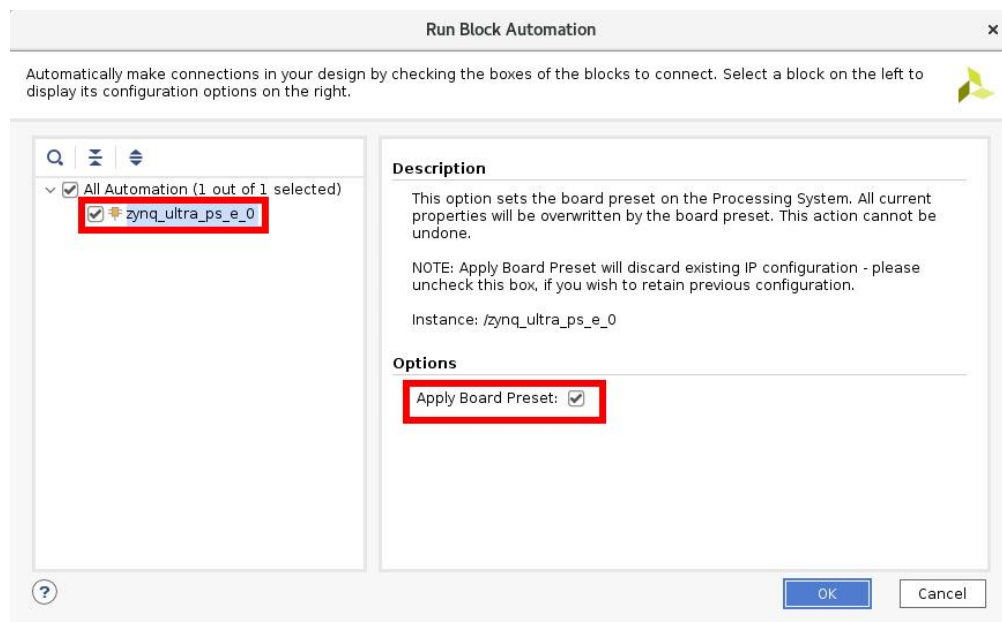

Figure 10: Applying Zynq preset by running block automation.
- Select **zynq_ultra_ps_e_0** and **Apply Board Preset**, as shown in the Figure 10.